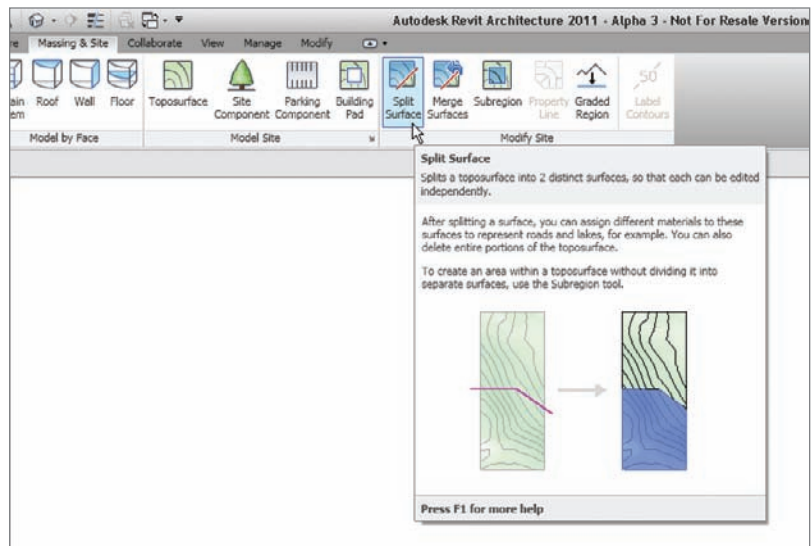

FIGURE 18.7 The Split Surface button
2. On the Massing & Site tab, click the Split Surface button, as shown in Figure 18.7.